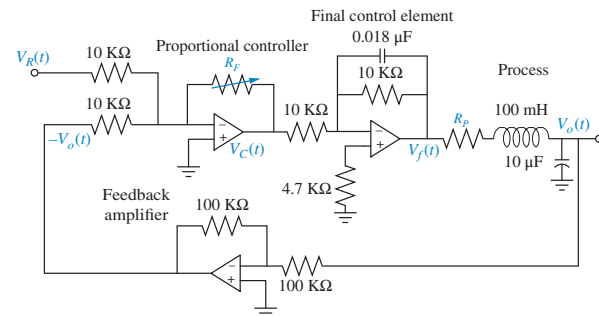

FIGURE I-5.14
22. A process is simulated by the second-order passive circuit, shown in Figure I-5.14, where the feedback amplifier, controller, and final control element are represented by op-amp circuits.